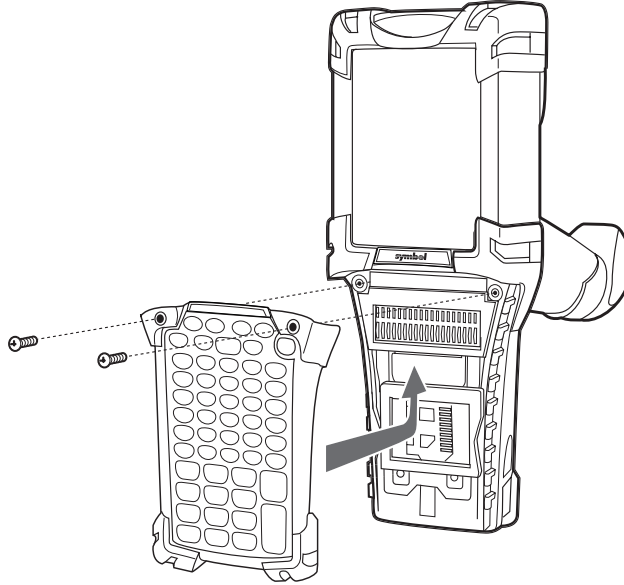

Figure 7-2. Installing the Keypad
4. Replace the keypad and re-attach using the two screws (see Figure 7-2 on page 7-6).